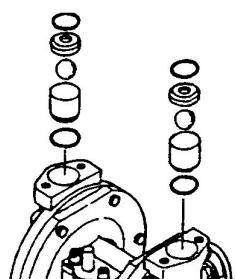

Fig.4.4
- Remove the O-ring, valve seat, ball and ball guide. [Fig. 4.4]